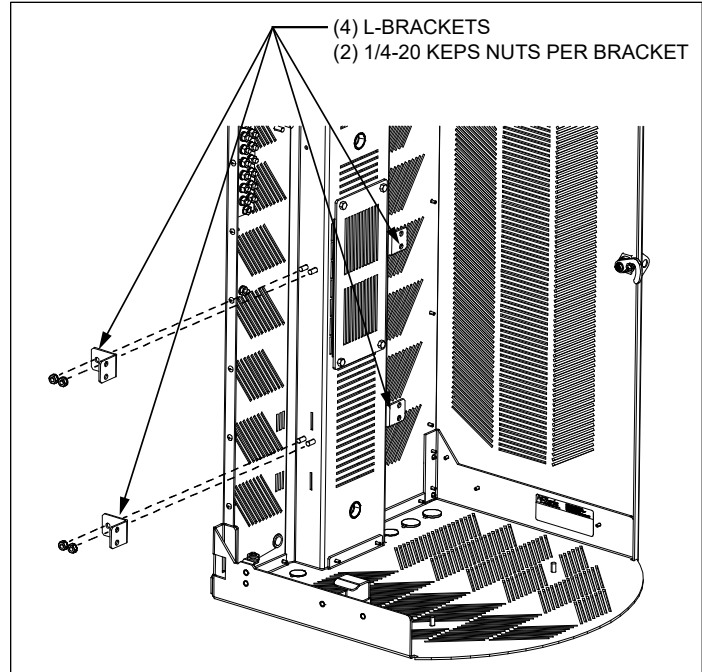

Figure 3 Install L-brackets
1. Install the L-brackets onto the threaded studs on the sides of the central spine (Figure 3). Use two 1/4-20 Keps nuts per L-bracket.